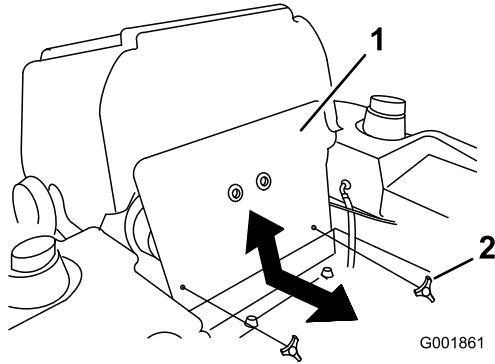

Figure 47
1. Tilt the seat forward and remove the front engine panel (Figure 47).